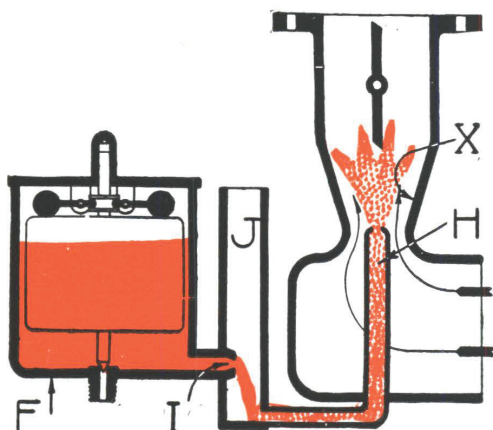

Fig. 2.
Look at Fig. 2. You will see that (I), representing the compensating jet, empties into the well (J), which is open to the air.
Number 6 is the compensating jet. Compare it with the view shown in Fig. 2. The jet here acts the same as (I) in Fig. 2, emptying into the well above it. This well is open to the air at Number 3.